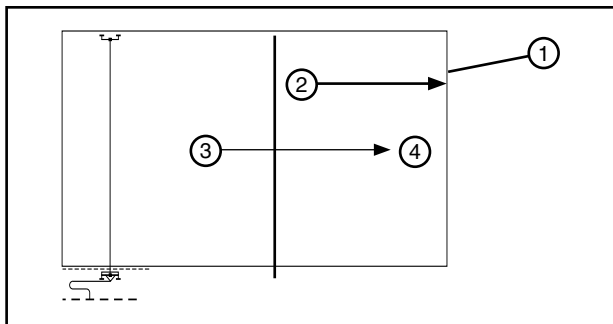

Figure 40-1 1. Field
1. The percentage timer is set at the desired application rate and the system is started at one end of the field and run wet (irrigating) to the other end of the field. See Figure 40-1.
2. The system is stopped until the field has dried sufficiently before running the system back to the original end of the field. See Figure 40-1.